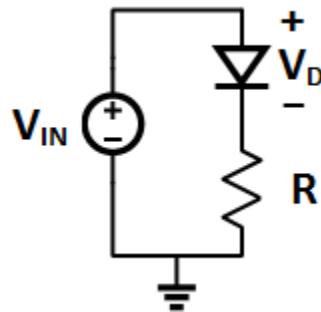

Figure 2: Diode characterization test bench
1. Draw the circuit shown in Fig. 2 in LTspice.